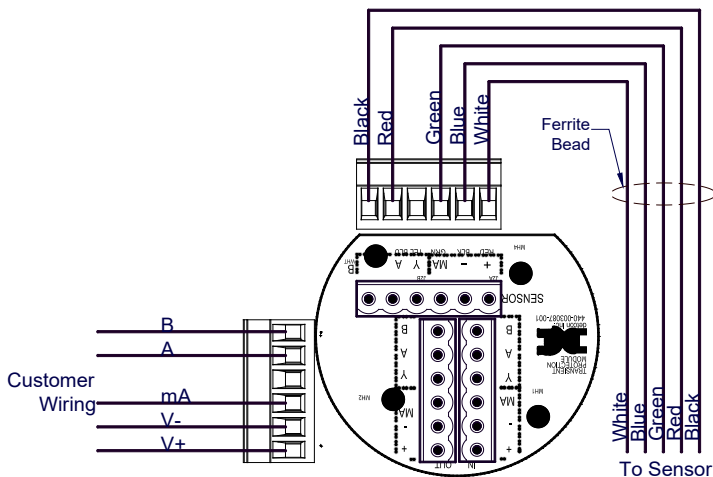

Figure 9 Terminal Interconnect
- Observing correct polarity, terminate the 3-conductor 4-20mA field wiring (+, -, mA) to the sensor assembly wiring in accordance with the detail shown in **Figure 9**.